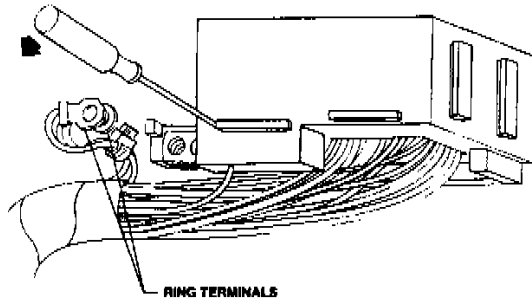

FIGURE 4
10. Remove Terminal Position Assurance "TPA" closest to stud (Figure 4).